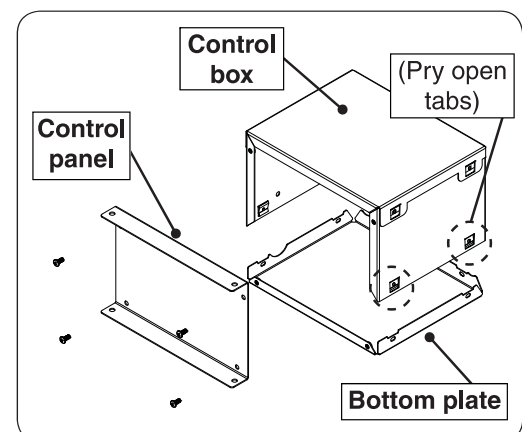

Fig. 40-4 Control panel interior access
3. Once the control box is accessible, remove the bottom plate by using a screwdriver to pry open the tabs found along the box. The control panel can also be removed by unfastening the 4 screws that are securing it to the box. See Fig. 40-4.